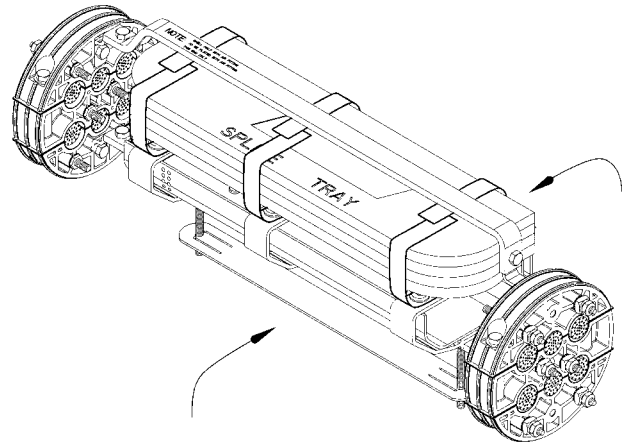

FIGURE 4 - SECURING EXISTING SPLICE TRAYS
- 9.03 Secure the existing splice trays in place with the hook-and-loop retainer straps. (Figure 4)